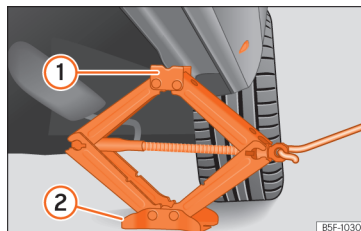

Fig. 75 Fitting the jack.
- Turn the jack* crank handle, located below the strut support point, to raise it until the tab ① »» Fig. 75 is below the housing provided.
- Align the jack* so that tab ① "grips" onto the housing provided on the strut and the mobile base ② is resting on the ground. The base plate ② should fall vertically with respect to the support point ①.